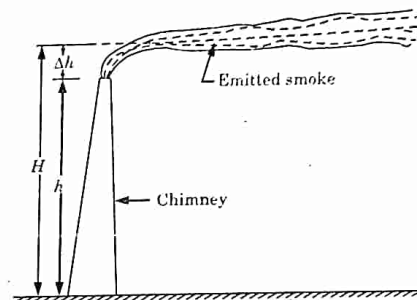

Fig. 2.13.1.
- This effective height consists of actual height ( $h$ ) plus the height ( $\Delta h$ ) to which the plume rises above the stack before levelling out, as shown in Fig. 2.13.1.